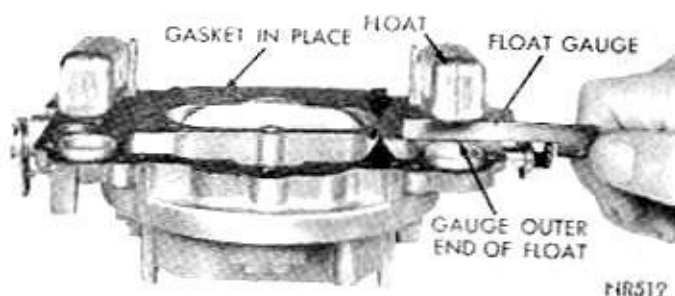

Fig. 9—Checking Float Height
(1) With air horn inverted, air horn gasket in place and float needle seated, slide float gauge (refer to specifications for carburetor being worked on) between top of the float (at outer end) and air horn gasket, (Fig. 9). Float should just touch gauge (T-109-107).
(2) Check other float in same manner. If an adjustment is necessary, bend float arm using Tool T-109-22, until correct clearance has been obtained. After bending arm, recheck the float alignment.